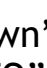

Figure 111
- Make sure that the address of the sensor has changed to the correct one. To do this, physically disconnect and connect the sensor to the connector of the communication harness. After that, return to the main screen (see Figure 111). To do this, first exit the Service menu, and then close the main screen menu (use the  “Back” button).